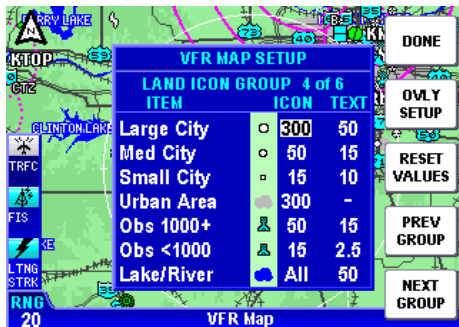

Figure 1-166
4. Press the **NEXT GROUP** Softkey to display the **LAND ICON GROUP** Page as in Figure 1-166.